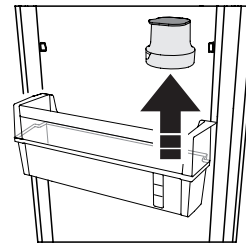

Fig 4
- Remove the filter from the balcony (**Fig. 4**);